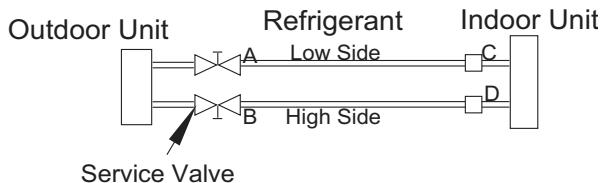

Fig. 9 – Service Valve
- 1 Completely tighten the flare nuts (A, B, C, D, E). Fully open all circuits service valves. Connect the manifold gage charge hose to the charge port of the low side Master service valve to evacuate all circuits at the same time (see Fig. 9).